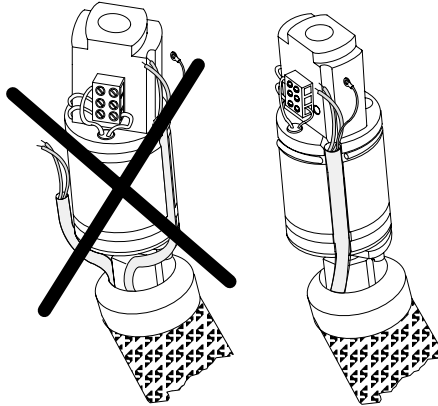

Figure 39 Proper Wire Alignment
9. See Figure 39. Align the pivot sleeve and the hose with each set of wires exiting the hose. Make sure to route the set of wires containing the ground wire up the groove on the heater side of the pivot sleeve.